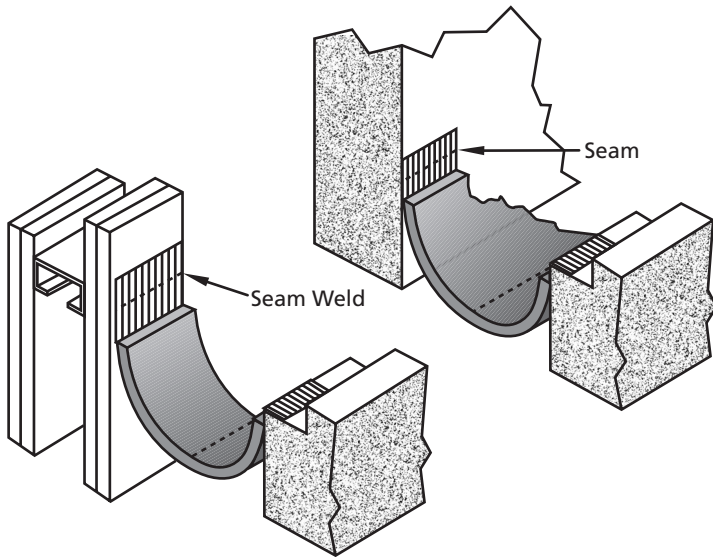
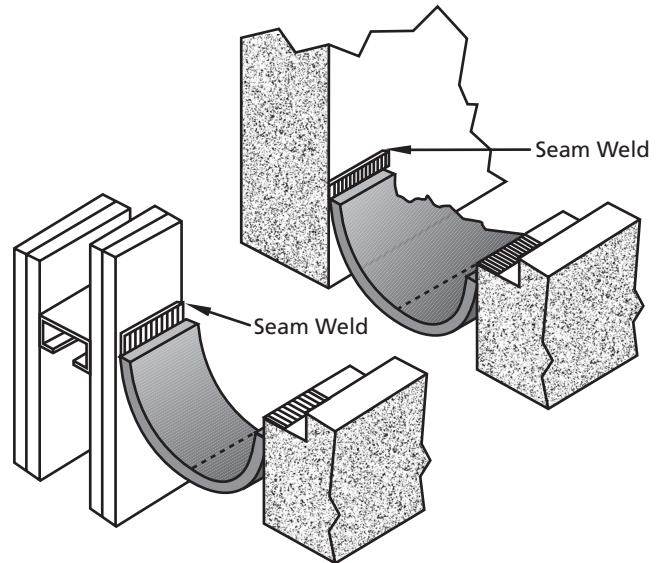

Fig. B2
Fig. C2
After completing material preparation described on page 1 and as shown in Fig. A, place the fire barrier in the expansion joint. The foil flanges can be folded along the seam weld line onto the exposed face of the floor slab. The foil flange can be run up the wall on the other side of the joint. (See Fig. B2). With the Low Profile (LP) galvanized flange configuration on the wall side, the foil flange can be folded over itself before the galvanized flange is fastened into place. (See Fig. C2).